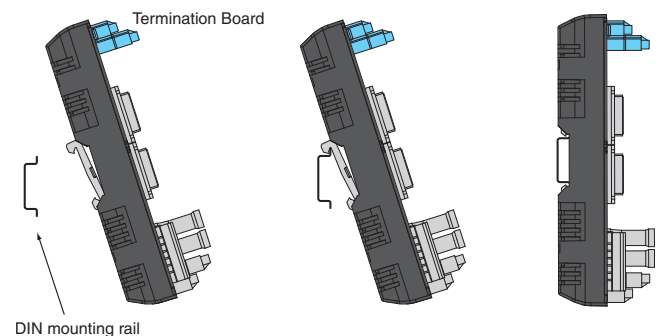

Figure 8 Proper mounting of the H-System Termination Board
- Place the Termination Board onto the DIN rail (Figure 8).